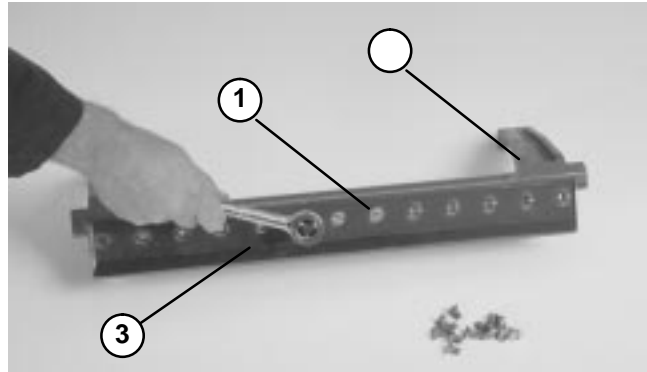

Figure 35
2. Remove screws from bedbar using a socket wrench and bedknife screw tool (see Special Tools). Discard screws. Remove bedknife from the bedbar (Fig. 35).